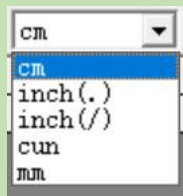

Figure 3-13
19.Unit: You can select the unit of the size chart. (Figure 3-13)